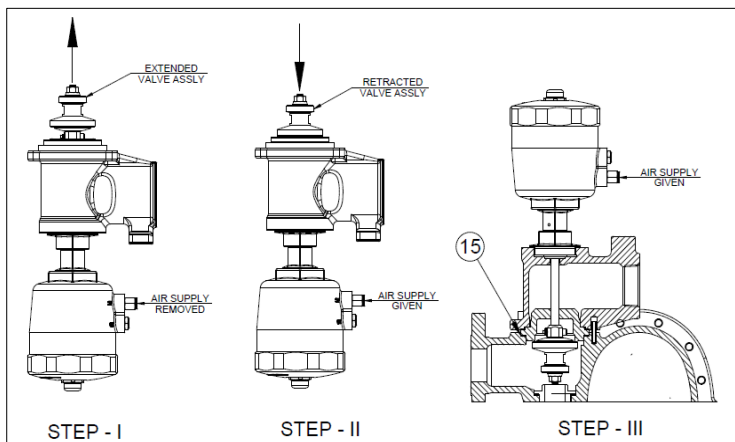

Fig. 7.15
- 1) Position the actuator assembly (13) in a vertical upright orientation as shown in Fig. 7.15 and locate bypass seat in the bypass manifold properly.
- 3) Remove the old bypass seat gasket (15) (refer fig. 7.15) and thoroughly clean the gasket seating areas on both the cover (14) and the bypass seat.
- 4) Install a new bypass seat gasket (15) (refer fig. 7.15).
- 5) With the diversion unit assembly in the retracted position, carefully mount it onto the trap cover (14).
- 6) Reinstall and tighten the socket head bolts (12).